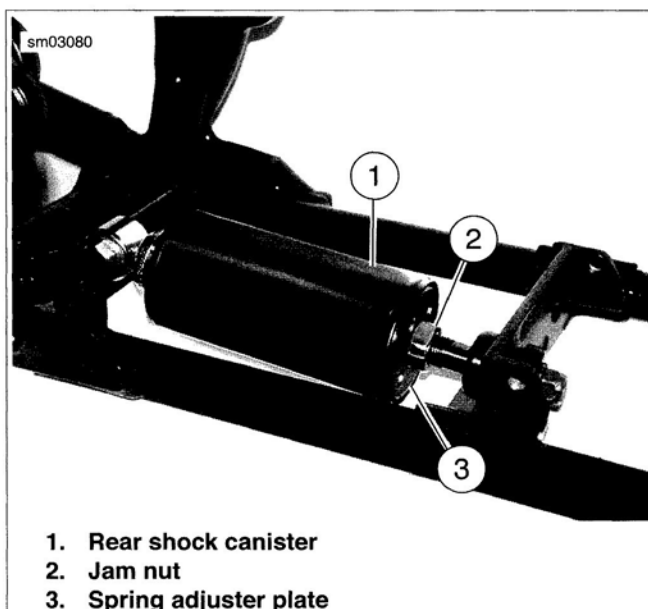

Figure 1-44. Rear Shock Adjustment
2. See Figure 1-44. Use a SPANNER WRENCH (Part No. 94455-89) to turn the spring adjuster plate to the desired position.